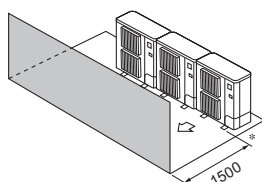

Fig. 3-13
- ③ Solo ostacoli anteriori (Fig. 3-13)